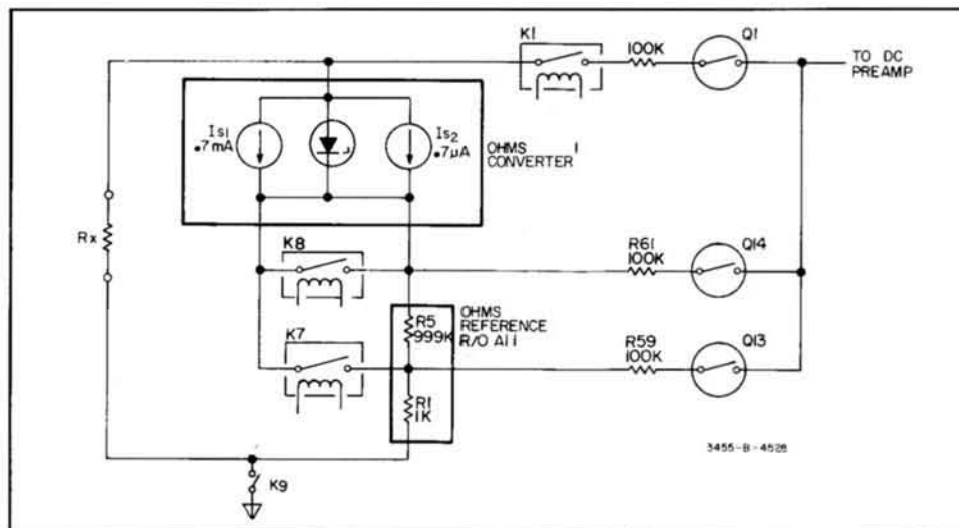

Figure 8-17. Ohms Reference Measurement.
**8-40. .1 kΩ, 1 kΩ, 10 kΩ Reference Measurements.** The ohms reference voltage is developed across the reference resistance. On the .1 kΩ through 10 kΩ ranges the reference resistance is 1 kΩ (see Figure 8-17). The .7 mA current source is connected to the 1 kΩ reference through relay A10K7. The 999 kΩ reference resistor is shorted by the combination of relay A10K7 and A10K8. The reference voltage is applied to the DC Preamp input through